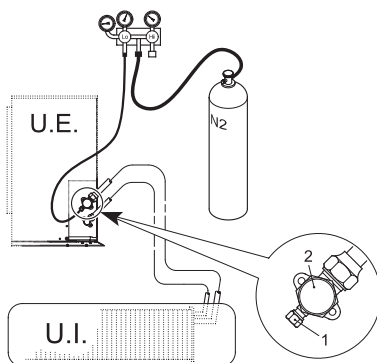

fig. 21 -
- With the service valves of the outdoor unit completely shut, remove the cap from the service tap (part 1 - "fig. 21 -") and the union (part 2 - "fig. 21 -") of the gas valve (the larger one)